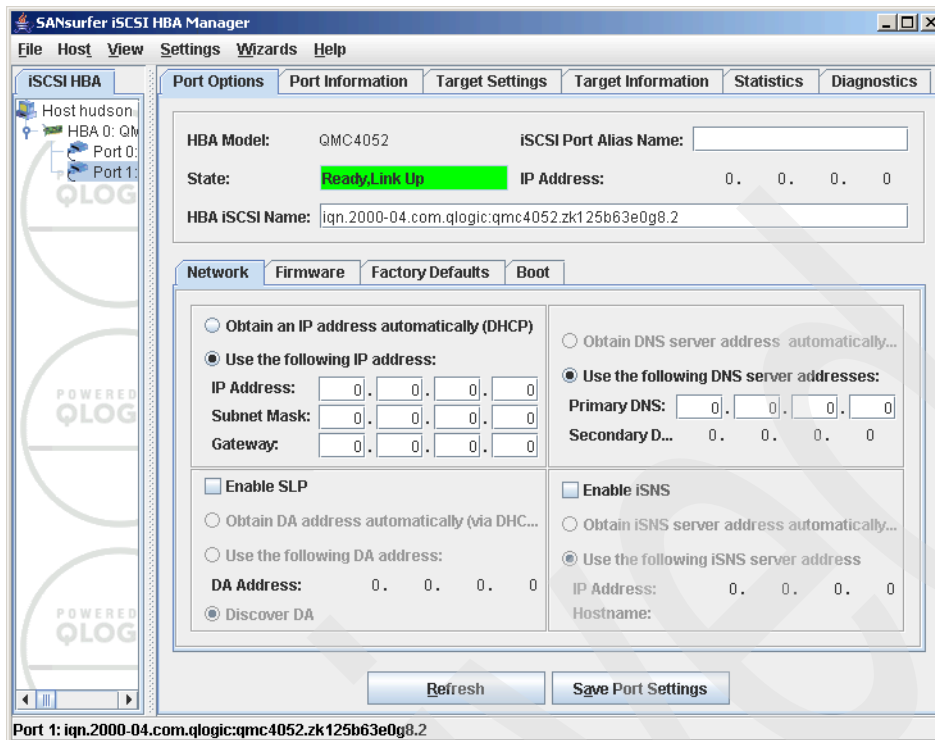

Figure 21-41 SANsurfer - Port option - Network -Second port
7. Configure the IP address of the second HBA port to use later redundant paths to the storage subsystem. Select the second port of the HBA on the iSCSI HBA tab. See Figure 21-41 on page 507.